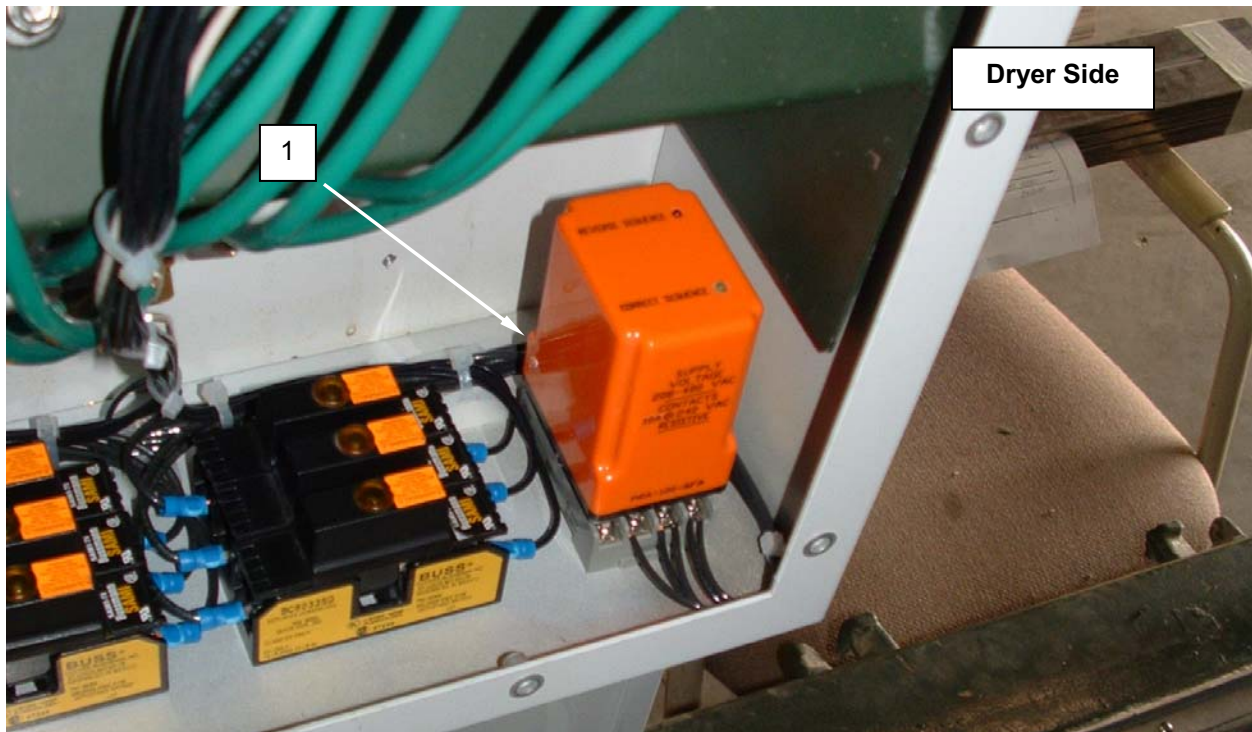

Figure 4. Replace the Phase Monitor Relay.
3. Remove the phase monitor relay(s) (**Figure 4, Item 1**) and install replacement relay(s).